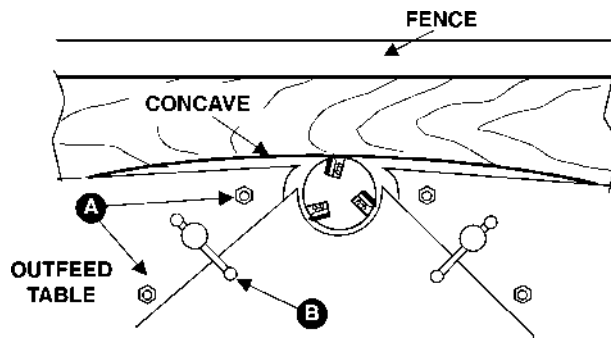

FIGURE 10
To spring cut, the outfeed table is lowered below the level of the cutterhead, as in Figure 10. Loosen both gib screws (A) on the outfeed table. Amount of end-drop is controlled with the table lock screw (B). Tighten handle to reduce amount of drop. A 1/32" drop usually creates the ideal concave for spring joints. Return the outfeed table to be in line with the cutterhead knives on completion of the cut.